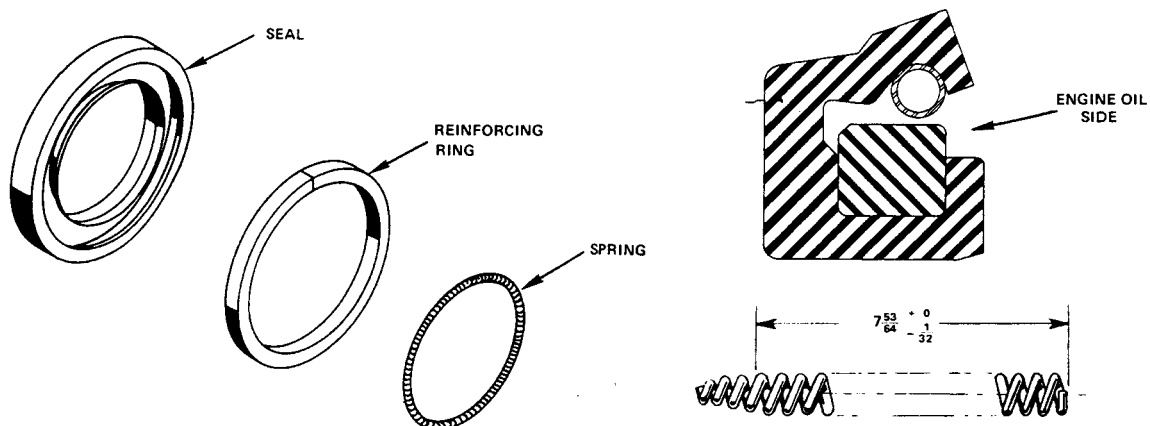

FIGURE 2
- A. Use only oil seal assembly P/N 641250 which consists of an oil seal, retainer ring and spring P/N 641306. Check the spring length. It should be $7 \frac{53}{64} \frac{+0}{-1/32}$ in length. See Figure 2.